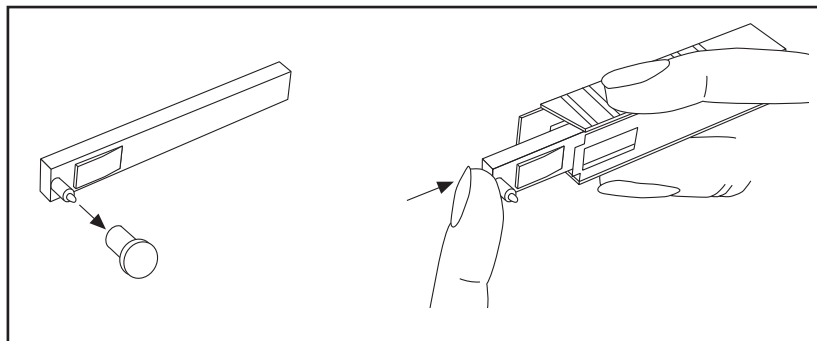

Figure 2-11. Pen Installation
5. Insert the blue pen fully into the lower (humidity) holder and the red pen fully and the second pen (Red for the CTXL-TRH) fully into the upper holder (Temperature for CTXL-TRH). If you installed the pens correctly, you will hear a click as they position themselves in the holders. Figure 2-11 shows how to insert the pens.